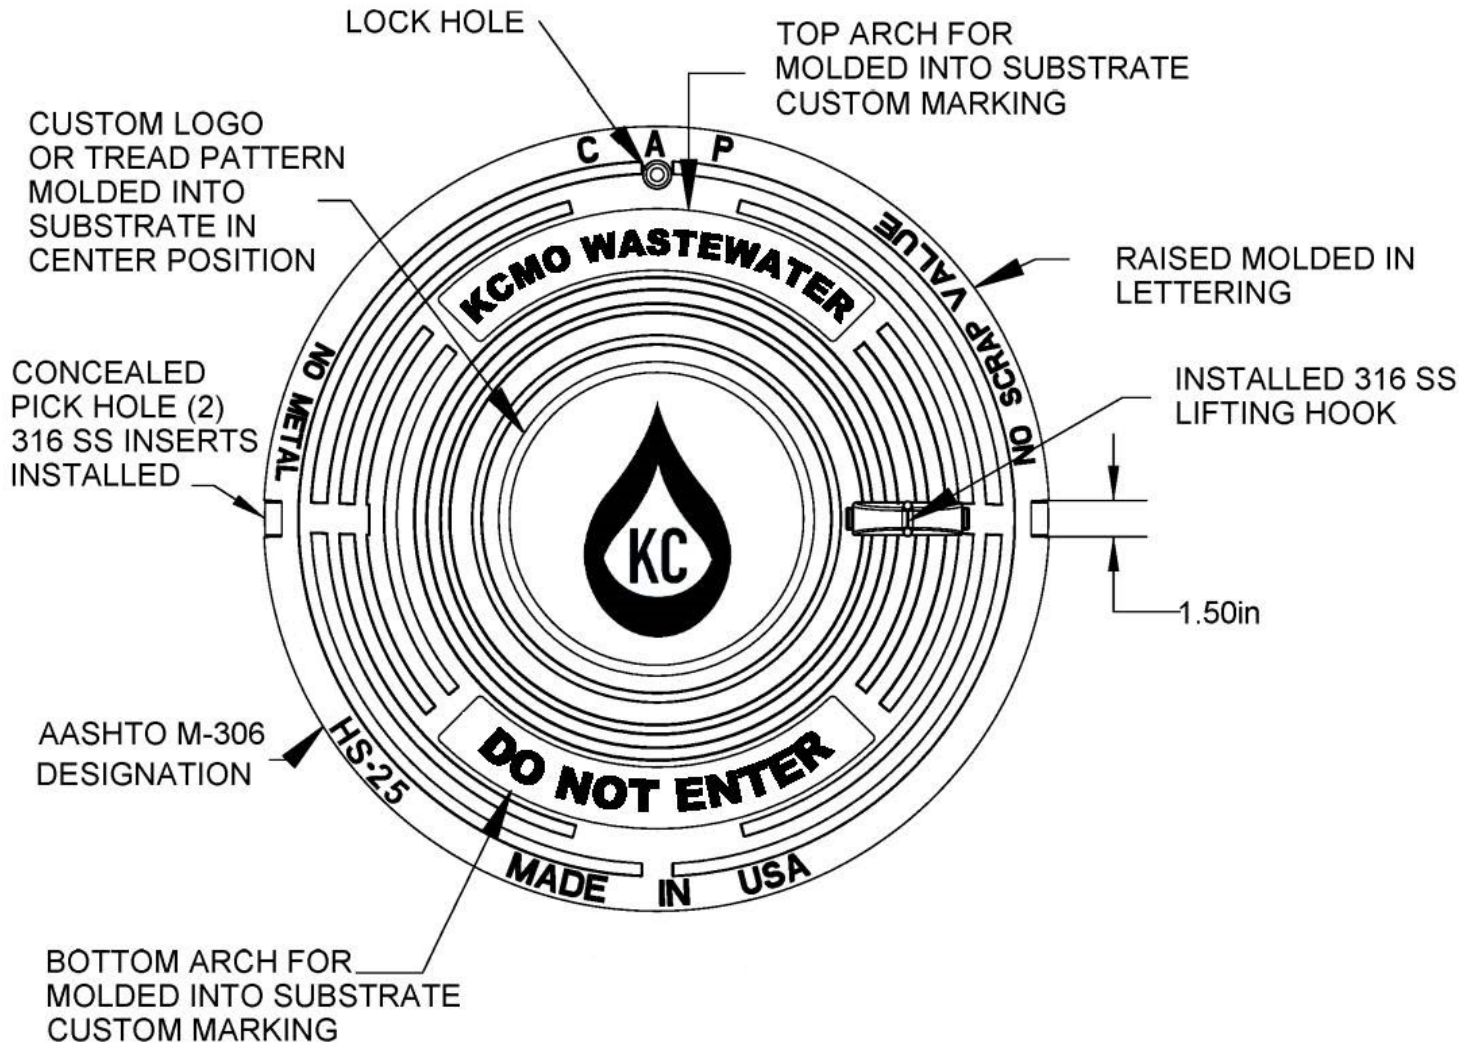

Figure 3: Standard Sanitary Sewer Manhole Markings For Composite Castings
- B. Markings – See Figure 1, Figure 2 and Figure 3 for approved markings at the end of this section.